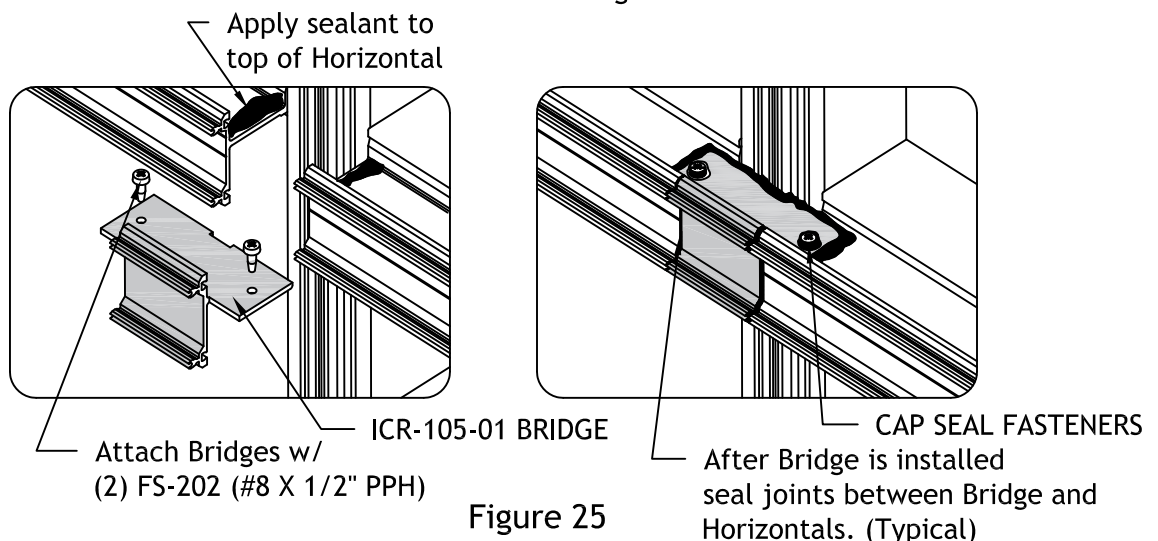

Figure 25
- 6.5 SSG Bridge Installation: An aluminum bridge must be installed at each horizontal to vertical connection when using a SSG mullion. The bridge will be attached to the horizontals using (2) FS-202 #8 x 1/2" Pan Head screws. Sealant will be applied to the horizontal member and to the mating surface of the bridge. Set bridge in place and attach. Tool sealant around the perimeter of the bridge and along the face of the mullion. Cap seal all fasteners. The joint at the face of the bridge to the horizontal must also be sealed. **SEE FIGURE 25**.